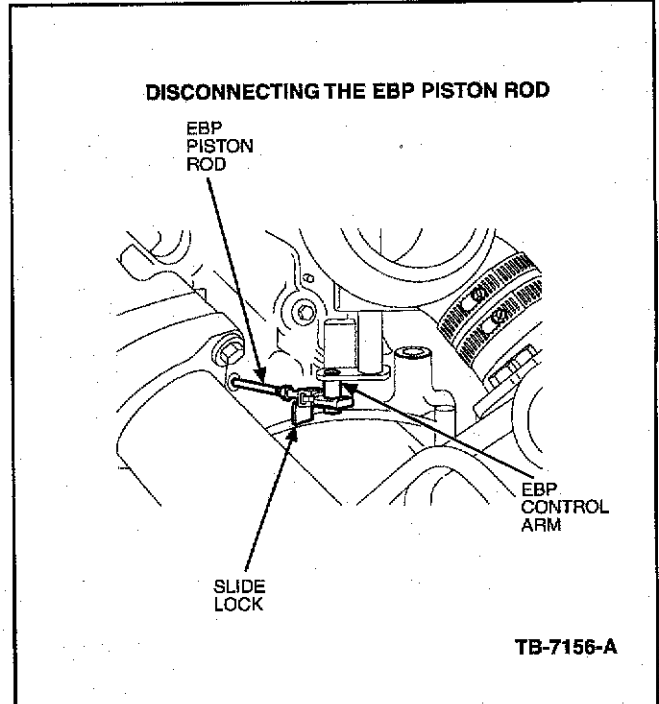

Figure 3 - Article 03-14-10
1. To disconnect the piston rod from the control valve, move the slide lock back and unhook the latch end from the control arm (Figure 3).